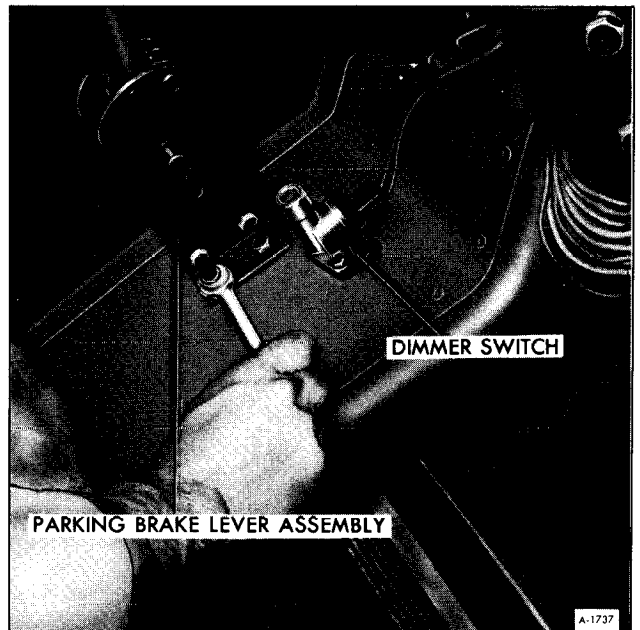

Figure 23—Removing Parking Brake Lever Retaining Nuts
1. Remove four nuts and bolts retaining lever to toe board (Refer to figure 23).